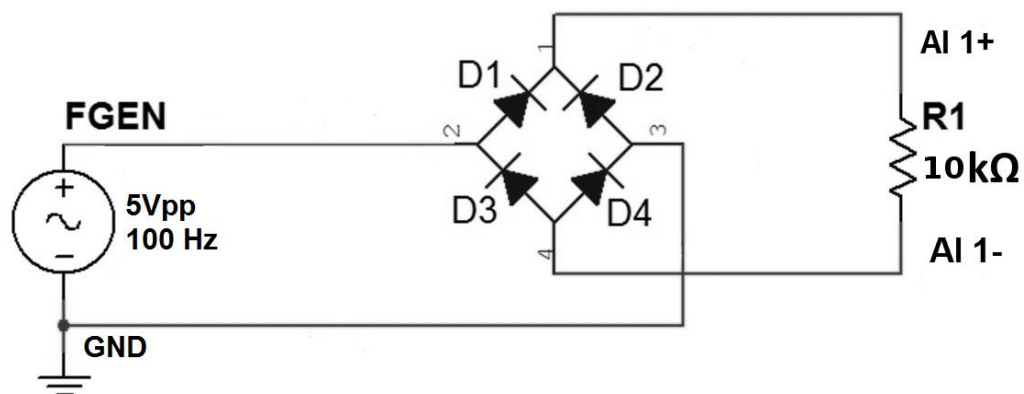

Figure 4.2: Full-wave rectifier circuit (without filter)
1. Connect the circuit as shown in the figure 4.2.